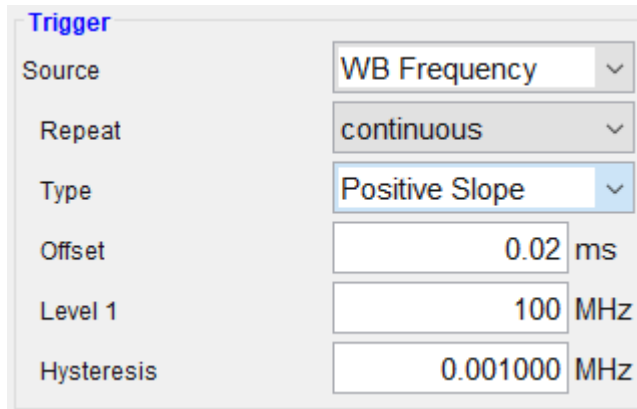

Figure 48: Trigger configuration dialog
**Trigger System:** The Trigger system enables access to a variety of trigger modes. To activate the Trigger select the trigger Source as WB frequency, NB frequency or external (J and Figure 48). This will visually show the trigger configuration in the plot (in green). Select the trigger Type from the drop down menu (L). Trigger types that can be chosen are: